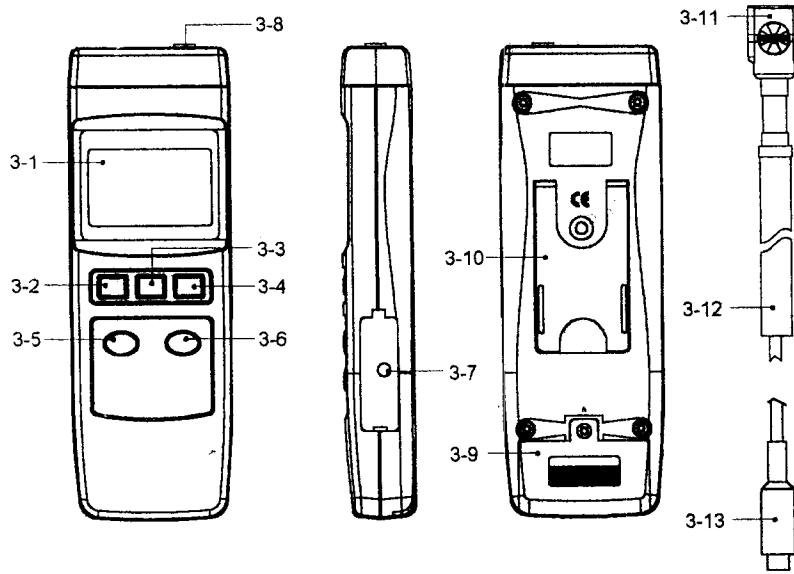

Fig. 1
- 1) Install the " Probe Plug " (3-13, Fig. 1) into the " Input Socket " (3-8, Fig. 1).
- 2) Power ON the meter by pressing the " Power Button " (3-2, fig. 1).
- 3) a. Select the desired air velocity unit (m/s, km/h, mph, knots, ft/min) by pushing the " unit Button " (3-5, fig. 1).
b. Select the desired temperature units by pushing the " °C/°F Button " (3-6, fig. 1).
- 4) Use the hand to hold the " Telescope Probe " (3-12, Fig. 1), face the " Vane Probe Head " (3-11, Fig. 1) to the measured wind. In the same time the air velocity and the temp. value will show on the LCD display.
- a. During the measurement, pushing the " Data Hold Button " (3-3, Fig. 1) will hold the measured value & the LCD will indicate " HOLD " symbol.
- a. The data record function records the maximum and minimum readings. Press the " REC. Button " (3-4, Fig. 1) to start the Data Record function and there will be a " REC " symbol on the display.
- * Press the " REC Button " (3-4, Fig. 1) once, the " REC Max " symbol along with the maximum value will appear on the display.
If intend to delete the maximum value, just press the " Hold Button " (3-3, Fig. 1) for a while, and then the display will show the " REC " symbol only & execute the memory function continuously.
- * Press the " REC. Button " (3-4, Fig. 1) again, the " REC Min " symbol along with the minimum value will appear on the display.
If intend to delete the minimum value, just press the " Hold Button " (3-3, Fig. 1) for a while, and then the display will show the " REC " symbol only & execute the memory function continuously.
To disable this function, Select the memory record function during the measurement by pressing the " REC. Button " (3-4, Fig. 1).
The instrument has RS232 PC serial interface via a 3.5 mm terminal (3-7, Fig. 1).
- 2) Slide the " Battery Cover " (3-9, Fig. 1) away from the instrument and remove the battery.